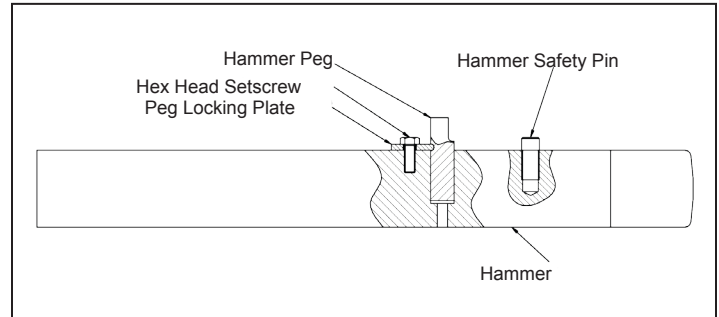

Figure 3. Hammer Adjustment
6. Remove the Hammer Peg and replace it in the next hole. Tighten to 180 ft/lbs/240 Nm for the DH3500 and DH9000, for the DH1500 tighten to 140 ft lbs/190 Nm with the bolt and Peg Locking Plate. See Figure 3.